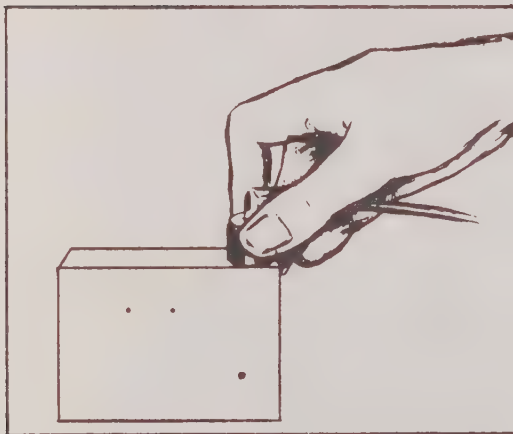

Figure 3-12 Angle Beam Search Unit Placed On Standard Test Block
- f. Place the 45° search unit on the block as shown in Figure 3-12. For most satisfactory results, the SU should be worked back and forth and, at the same time, twisted slightly side to side in a rotary motion so as to cover an arc of 20 to 30 degrees. This assures complete coverage of the material under test. (Figures 3-12 and 3-13).